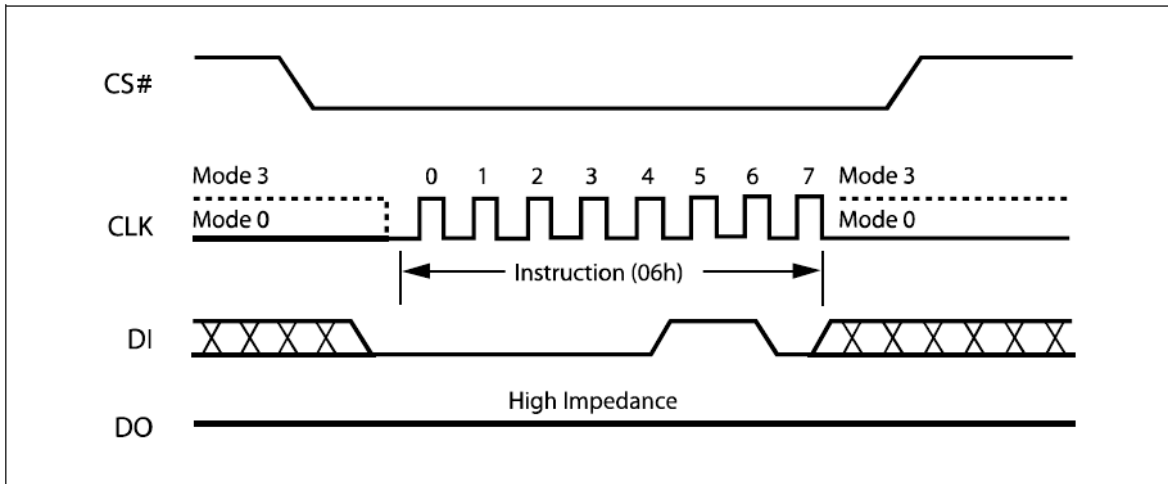

Figure 8. Write Enable Instruction Sequence Diagram
The Write Enable (WREN) instruction (Figure 8) sets the Write Enable Latch (WEL) bit. The Write Enable Latch (WEL) bit must be set prior to every Page Program (PP), Quad Input Page Program (QPP), Sector Erase (SE), Half Block Erase (HBE), Block Erase (BE), Chip Erase (CE) and Write Status Register (WRSR) instruction. The Write Enable (WREN) instruction is entered by driving Chip Select (CS#) Low, sending the instruction code, and then driving Chip Select (CS#) High.